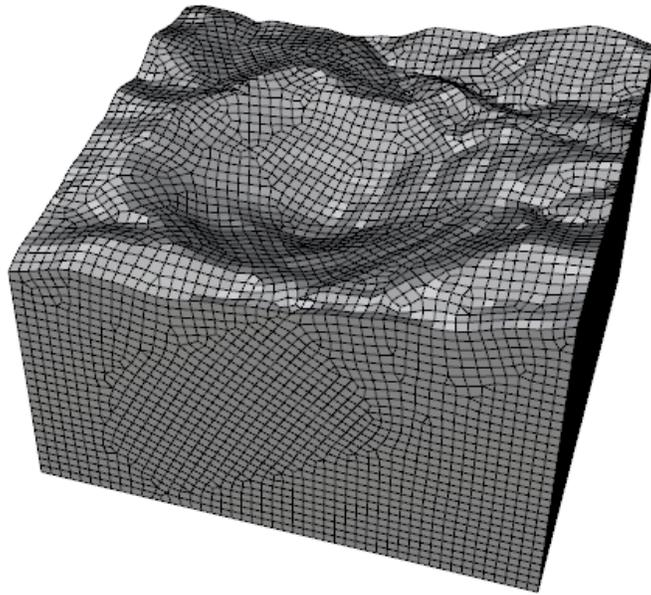

Figure 167: Quad dominant surface mesh of pit and faults.
1. Select the mesh in layer Meshes and type **_Gsurf**. Use **Mode:QuadDom**, **MinEdgeLength 50**, **MaxEdgeLength 50** to generate a surface mesh similar to that shown below (Figure 167).